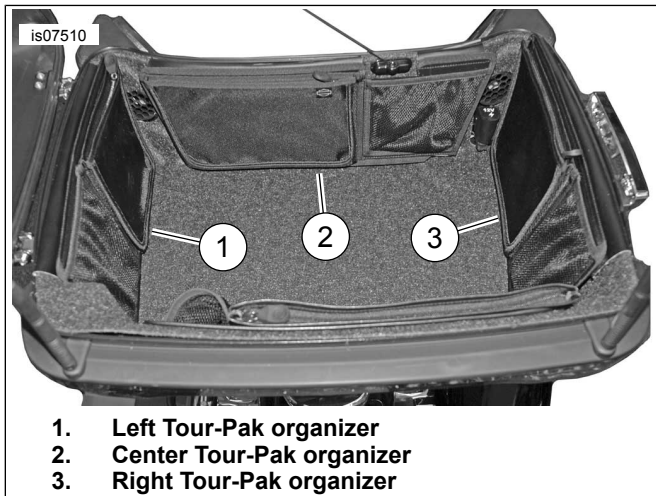

Figure 2. Mounting locations
5. See Figure 2. Install the Tour-Pak wall organizers (2, 3 and 4) to the Tour-Pak. Start with the center Tour-Pak wall organizer.
3. See Figure 2. Install the Tour-Pak wall organizers (2, 3 and 4) to the Tour-Pak. Start with the center Tour-Pak wall organizer.